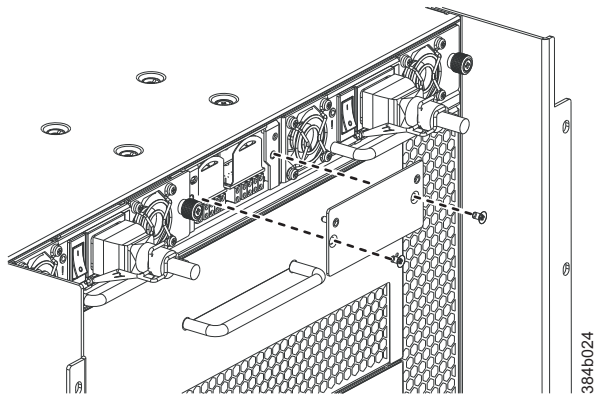

Figure 40. WWN bezel and card removal and installation
7. Remove the two screws from the WWN bezel . Pull the bezel away from the chassis and set it aside (see Figure 40). The two WWN cards are now visible.